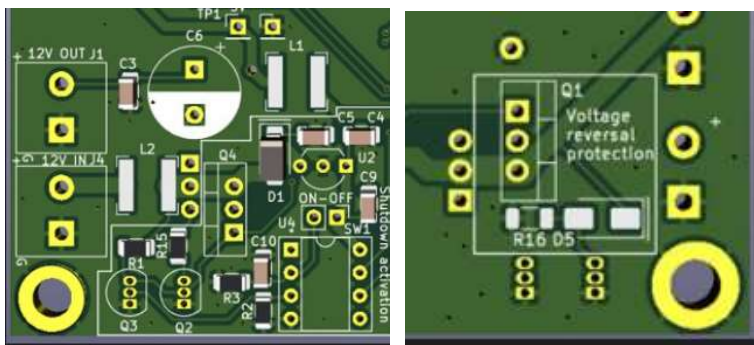

Figure 3. On-Off Switch and Reverse Voltage Protection Options.
OPTION 3: The on-off switch module is a clever way to electronically turn the T41 radio on and off with a FET. Like the V010/V011 power supply board, the basic design also provides reverse polarity protection. It also incorporates a small ATTINY85 processor programmed to communicate with the Teensy such that when the off button is pressed, it tells the Teensy to execute a “shutdown” routine with user code (examples: save selected parameters, last band and mode, volume, etc., custom shut down screen, stay active with screen saver, etc.). When the Teensy has completed the shutdown routine, it communicates back to the ATTINY85 to complete the shut down and turn the radio off. See Figure 3.
1. Mount two SMD parts (D5 and R16) on the backside of the board first **ONLY IF** you have opted to use the reverse voltage protection instead of the clever soft on-off routines. Both are clearly marked as D5 and R16. Remember... mount EITHER the BLUE parts or the RED parts but not both (BLUE part designators here are for just reverse polarity protection on the bottom side of the board, while RED are just for the on-off power control on the top side of the board, and BLACK are for either option). See Figure 3.
5. Mount the thru-hole parts except for the voltage regulators (U1 and U3) including the female headers for the Teensy and for **U4**. Mount **U2**, **Q2**, and **Q3** if used. See Figure 3.
10. Solder an 8-pin DIP socket or socket pins at **U4** on the board and mount **U4**. See Figure 3.